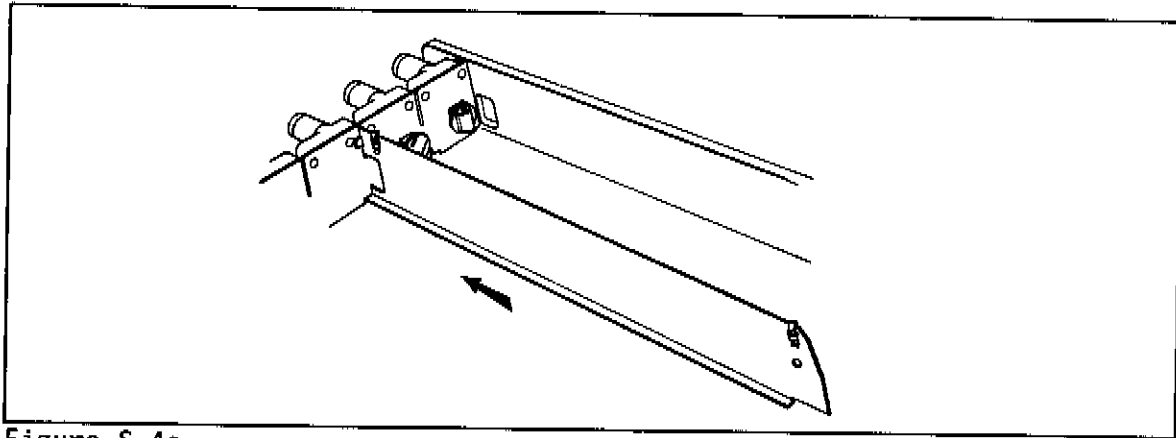

Figure S-4a
* Push the Column Divider toward the back of the Tray. See Figure S-4a.